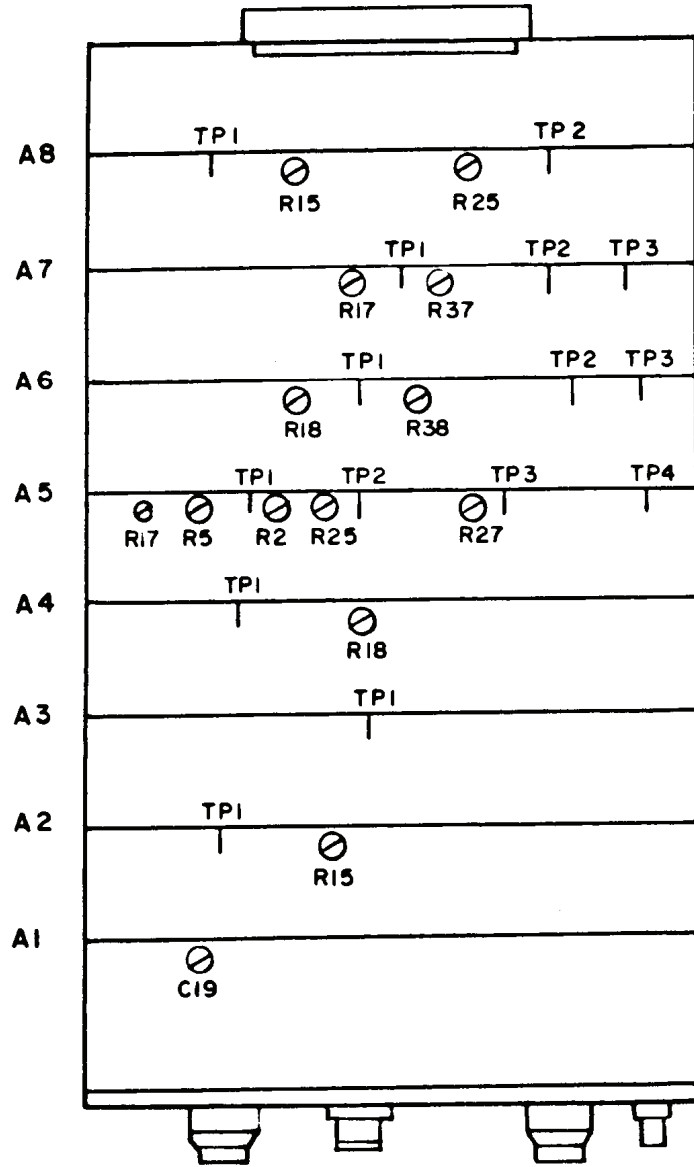

Figure 7. Model 3305A - top view.
(1) Adjust A5R5 (fig. 7) for minimum variation of waveform at midway point of rotation (R).
(2) Set TI **FREQUENCY RANGE** switch to **X10 TO 10K** and adjust A1C19 (fig. 7) for minimum variation at midway point of rotation (R).
(2) Connect frequency counter time interval unit to **CHANNEL A OUTPUT**.
(3) Set function generator function switch to **SQUARE**.
(4) Measure symmetry of square wave as illustrated in figure 1. Adjust A7R37 (fig. 7) until T_1 is equal to T_2 (R).